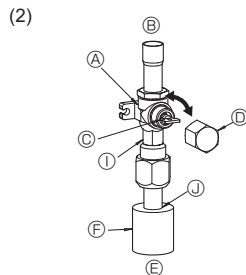

Fig. 4-7
- ① Remove the cap and turn the valve rod counterclockwise as far as it will go with the use of a 4 mm hexagonal wrench. Stop turning when it hits the stopper. (Approximately 10 revolutions)
- ② Make sure that the stop valve is open completely and rotate the cap back to its original position.
- (2) Gas side of stop valve (Fig. 4-7)
- ① Remove the cap, pull the handle toward you and rotate 1/4 turn in a counterclockwise direction to open.